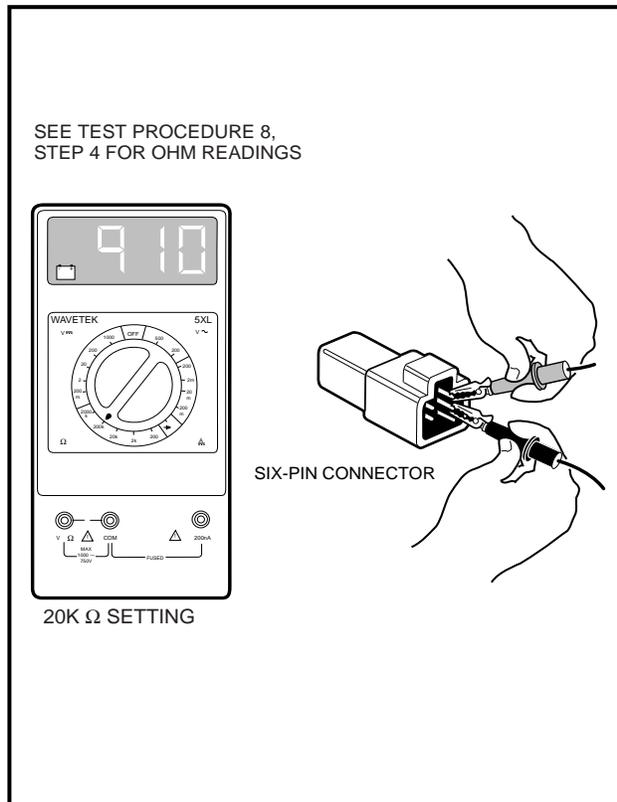

Figure 11-23 Test Multi-step Potentiometer
2. With multimeter set for 20K ohms, connect black (-) lead of multimeter to purple wire terminal end (located in six-pin connector on potentiometer). Connect red (+) probe to yellow wire terminal end (**Figure 11-23, Page 11-17**).